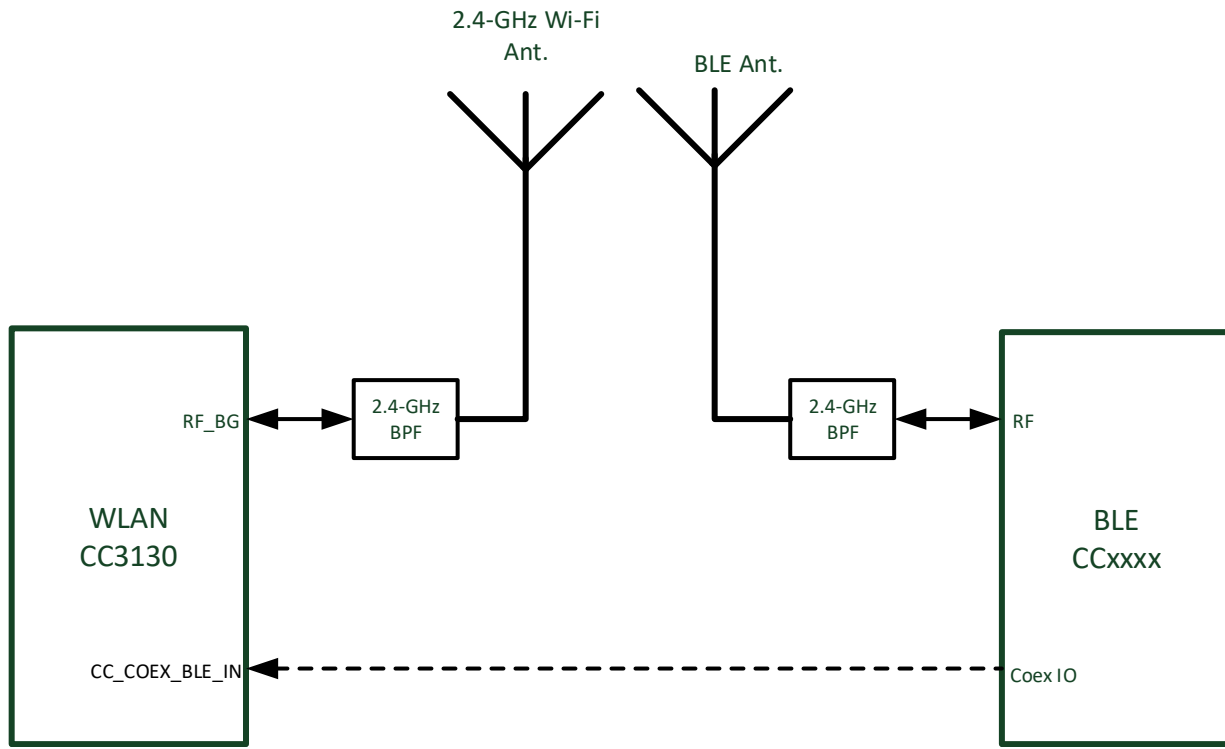

图 10-2. Dual-Antenna Coexistence Mode Block Diagram
- in this mode, (see Figure 10-2) the two entities have separate antennas, No RF switch is required and only a single GPIO (on input from the WLAN perspective).
图 10-2 shows the dual antenna implementation of a complete Bluetooth low energy and WLAN coexistence network. Note in this implementation no Coex switch is required and only a single GPIO from the BLE device to the CC3130 device is required.